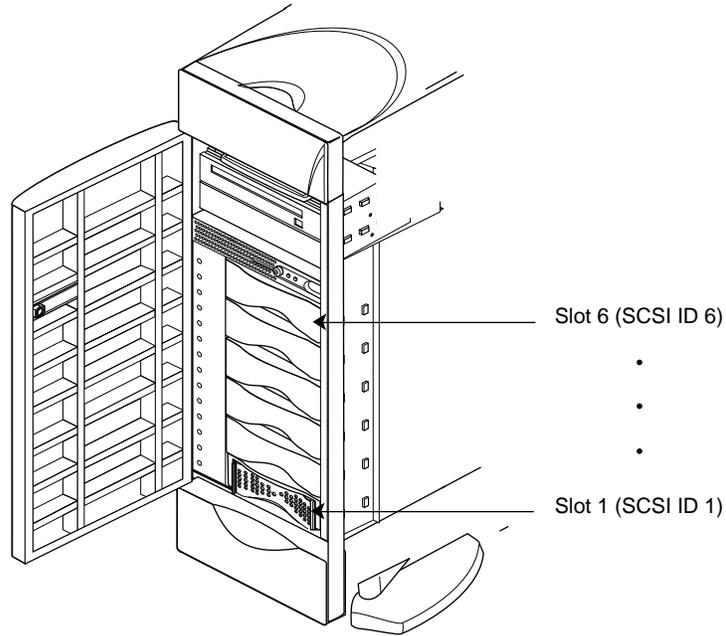

Figure 7-15 How the 3.5-inch Drives are Numbered in Origin200
- Figure 7-15 shows how the drives are numbered.